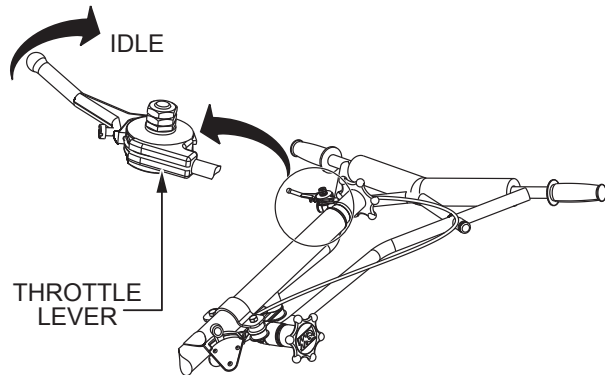

Figure 27. Handlebar Throttle Lever (IDLE)
1. Place the handlebar throttle lever in the **IDLE** position (Figure 27).